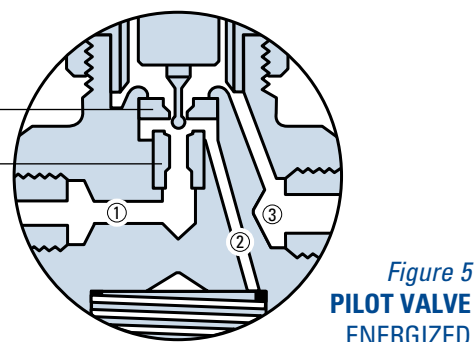

Figure 5
See Figure 5. When the pilot valve is energized, high side pressure ① is permitted to flow through the lower pilot port. At the same time, the upper pilot port is closed to suction ③. High side pressure ①, builds up on top of the piston ②, moves the piston-seat assembly to close the normal condenser port, and opens the reclaim (upper) main port. With the upper pilot port closed, there is no high to low side bleed with the system in the reclaim mode.